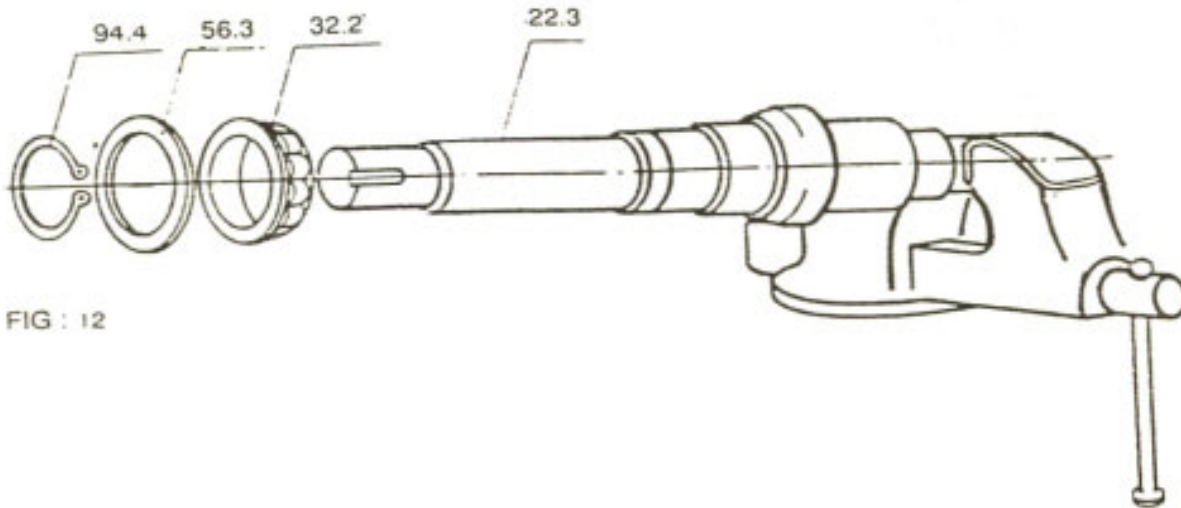

FIG : 12
- 1.1 Place the shaft (22.3) in the vise as shown in fig: 12